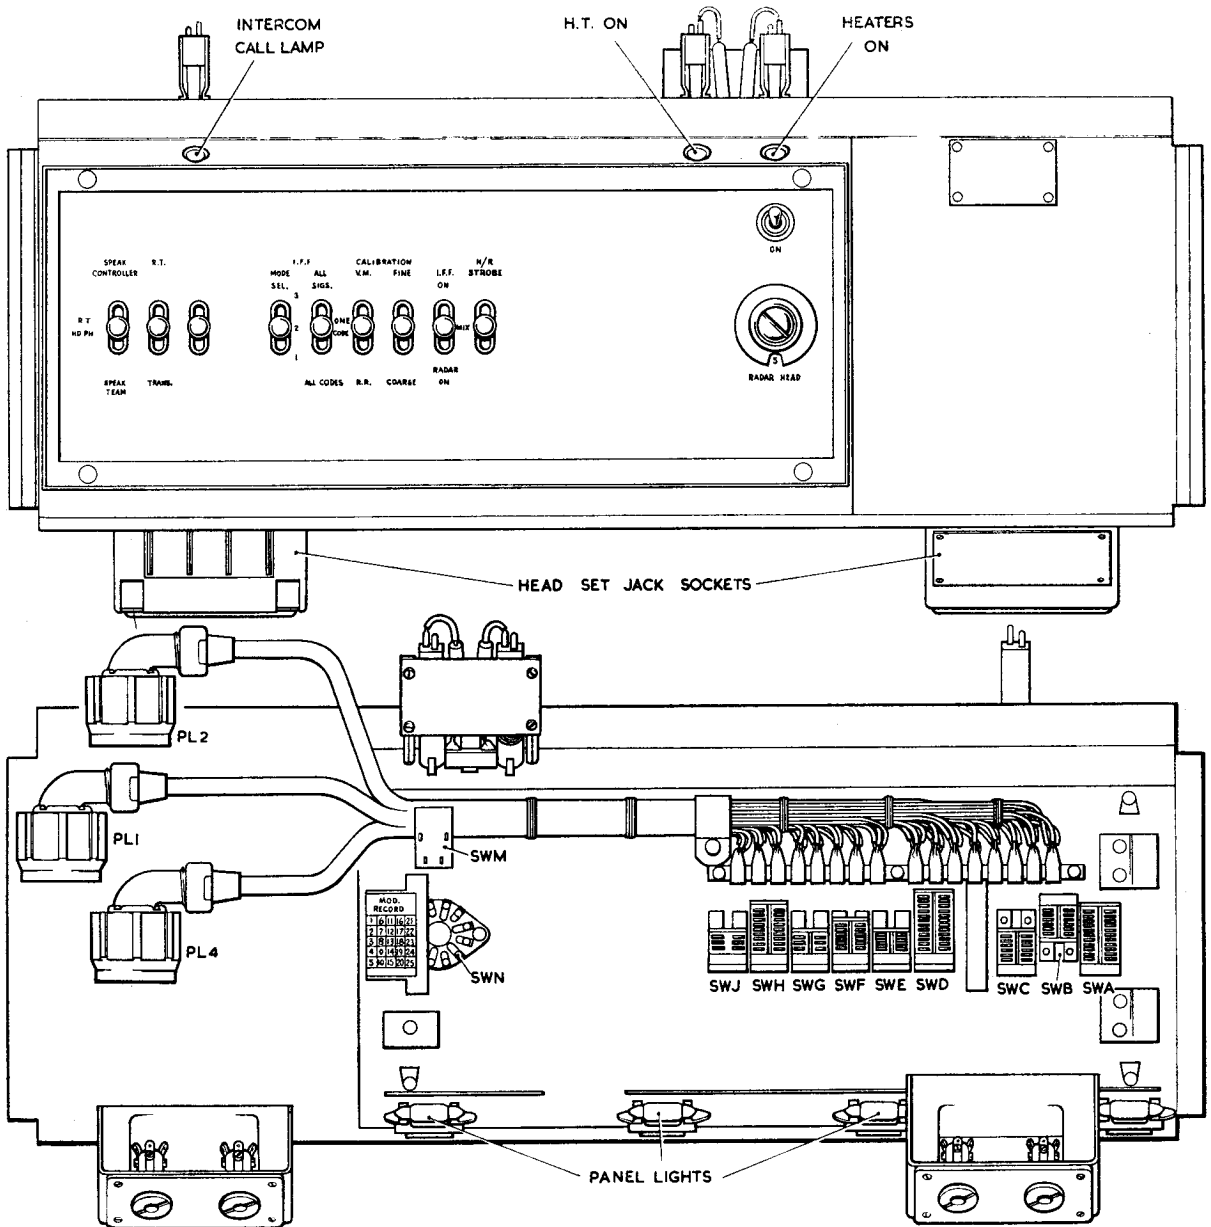

Fig. 8. Panel (control desk) Type 4550B—front and rear views
35. The ON/OFF switch accepts -50V from PL2/L and when in the ON position completes the circuit for the LP1, HEATERS ON lamp. At the same time the -50V is fed to the panel (control) Type 859, to the distribution panel Type 861 via PL2/5, and to the fuse panel via PL2/U. The feed to panel 861 energizes RLA, which switches on the l.t. transformers (fig. 8, Chap. 9 of this Section). On later types of desks, the HEATERS ON lamp is fed by 6.3V from the l.t. transformer.